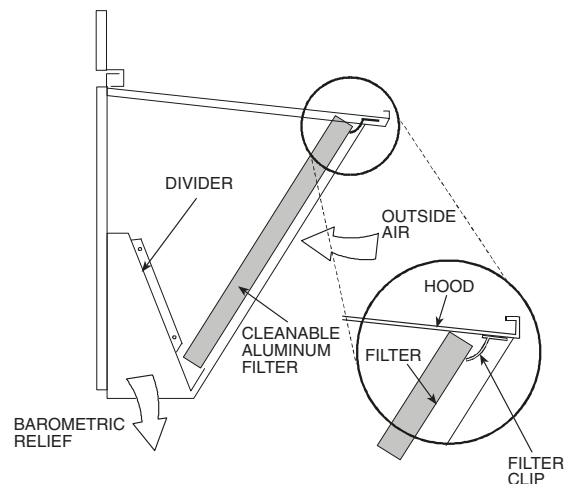

Fig. 15 — Economizer Filter Installation
- The indoor coil access panel will be used as the top of the hood. If the panel is still attached to the unit, remove the screws along the sides and bottom of the panel. See Fig. 15.
- Open the filter clips which are located underneath the hood top. Insert the aluminum filters into the bottom filter rack (hood divider). Push the filter into position past the open filter clips. Close the filter clips to lock the filters into place. See Fig. 15.